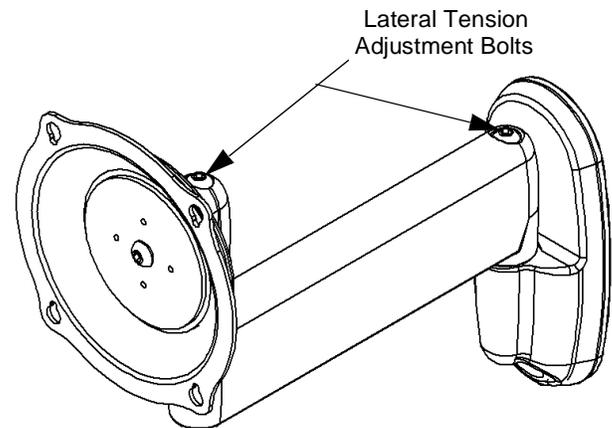

Figure 10: Lateral Tension Adjustment
1. Using a 3/16" hex wrench (170), slightly tighten or loosen lateral tension adjustment bolt (see Figure 10).